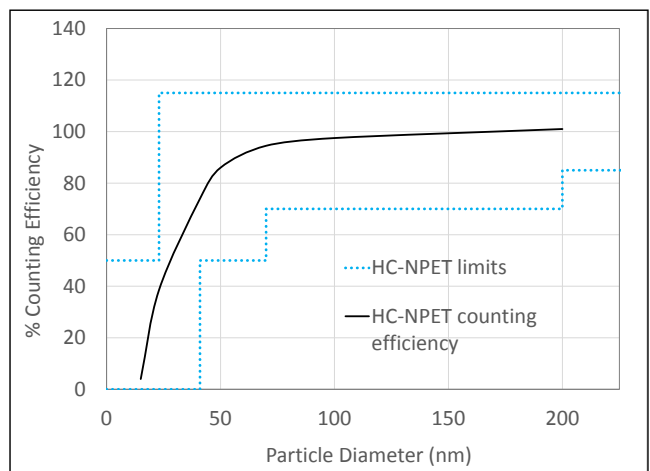

Figure 3: HC-NPET counting efficiency curve and limits.
5. System efficiency: The goal of this step is to determine the counting efficiency of the HC-NPET at several specific particle sizes. The instruments are challenged in parallel with classified (i.e. 'size-selected') soot particles. The concentrations measured by the two units are compared to ensure that the ratio meets TSI criteria; see Figure 3.